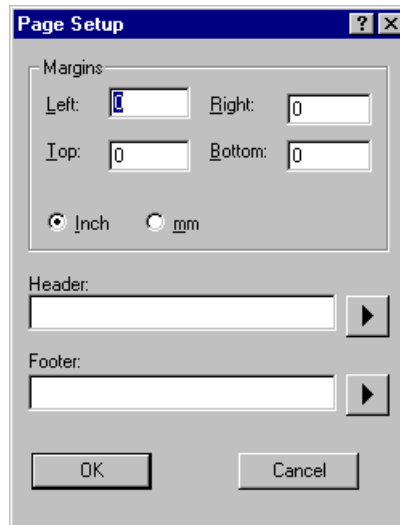

Figure 4.6: Page Setup Dialog
1. Select **[File->Page Setup...]**. The “Page Setup” dialog will be invoked ***MERGEFORMAT** (figure 4.6).
1. Select [**File->Page Setup...**]. The “Page Setup” dialog will be invoked (figure 4.6).